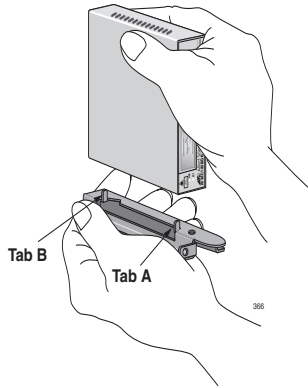

Figure 15. Positioning the AT-MC1008 Chassis onto the Mounting Guide
- Securely position the converter chassis onto the mounting guide with the front tab (Tab A) inserting into the first vent hole and the back tab (tab B) inserting into the last vent hole of the chassis, as shown in Figure 15.